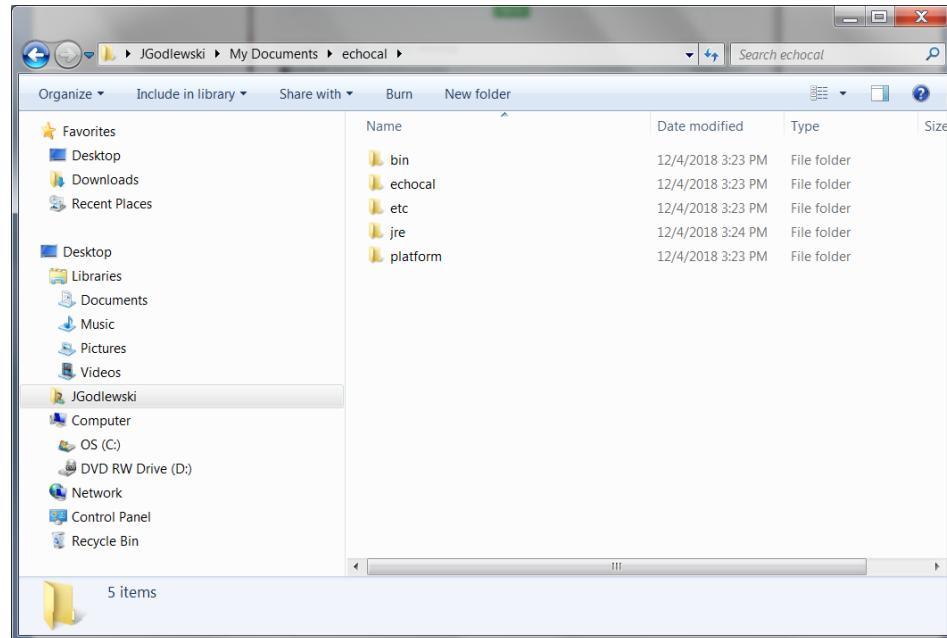

Figure 22. Unzipped EchoCAL folder.
- d. When the ZIP file finishes downloading to your PC, navigate to the **Downloads** folder and extract the “echocal.zip” file to a local folder to which the user has write privileges. Figure 22 shows the contents of the ZIP file.